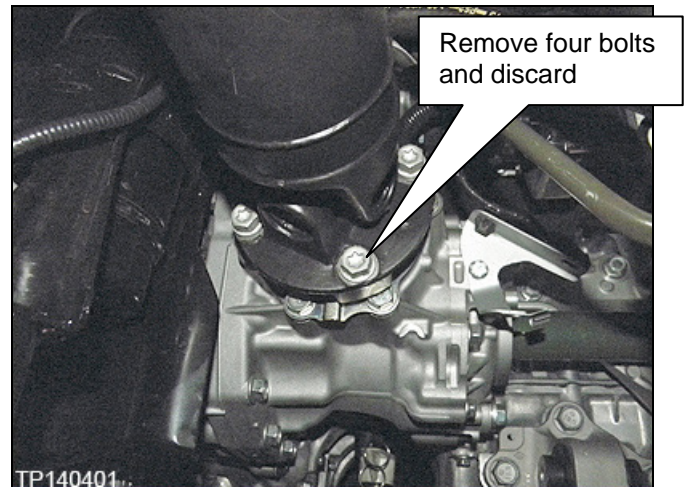

Figure 37
- b. Support the front half of the Propeller Shaft Assembly, at the transfer case, and then unbolt it (Figure 37).